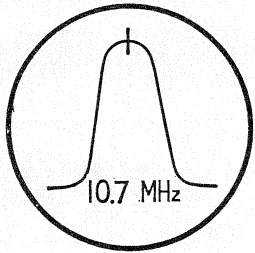

Fig. 3
**Note:** When aligning the Ratio Detector circuit, the wave form may appear as in Figs. 3 & 4 or upside-down.